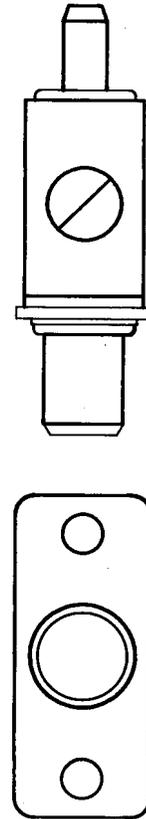

Fig. 18—220A, B, C, D, E, F, G, or H Connector
2.11 **220A Through H:** The 220-type connectors (Fig. 18) are used for connecting cables. For more information, see Table B.